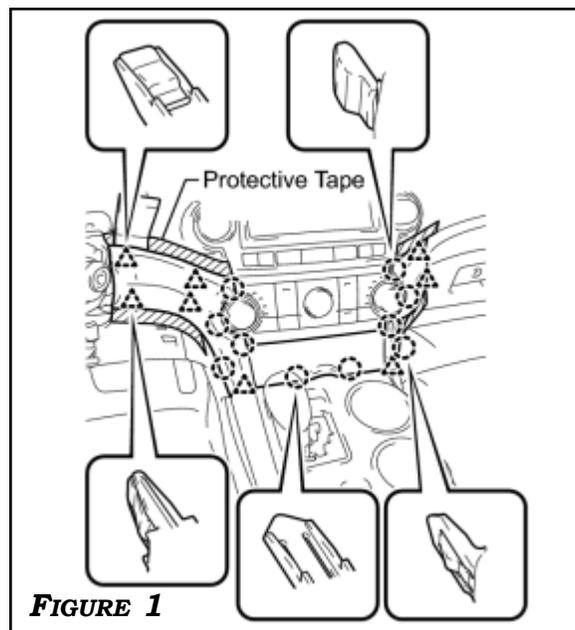

FIGURE 1
1. APPLY PROTECTIVE TAPE TO THE AREAS SHOWN IN THE ILLUSTRATION. USING A MOULDING REMOVER, DISENGAGE THE 10 CLAWS AND 8 CLIPS STARTING FROM THE UPPER PART OF THE CENTER INSTRUMENT CLUSTER FINISH PANEL ASSEMBLY. **DO NOT PULL ON THE SMALL STORAGE COMPARTMENT LID. DOING SO MAY CAUSE DAMAGE.** DISCONNECT EACH CONNECTOR AND REMOVE THE CENTER INSTRUMENT CLUSTER FINISH PANEL ASSEMBLY. **FIGURE 1**